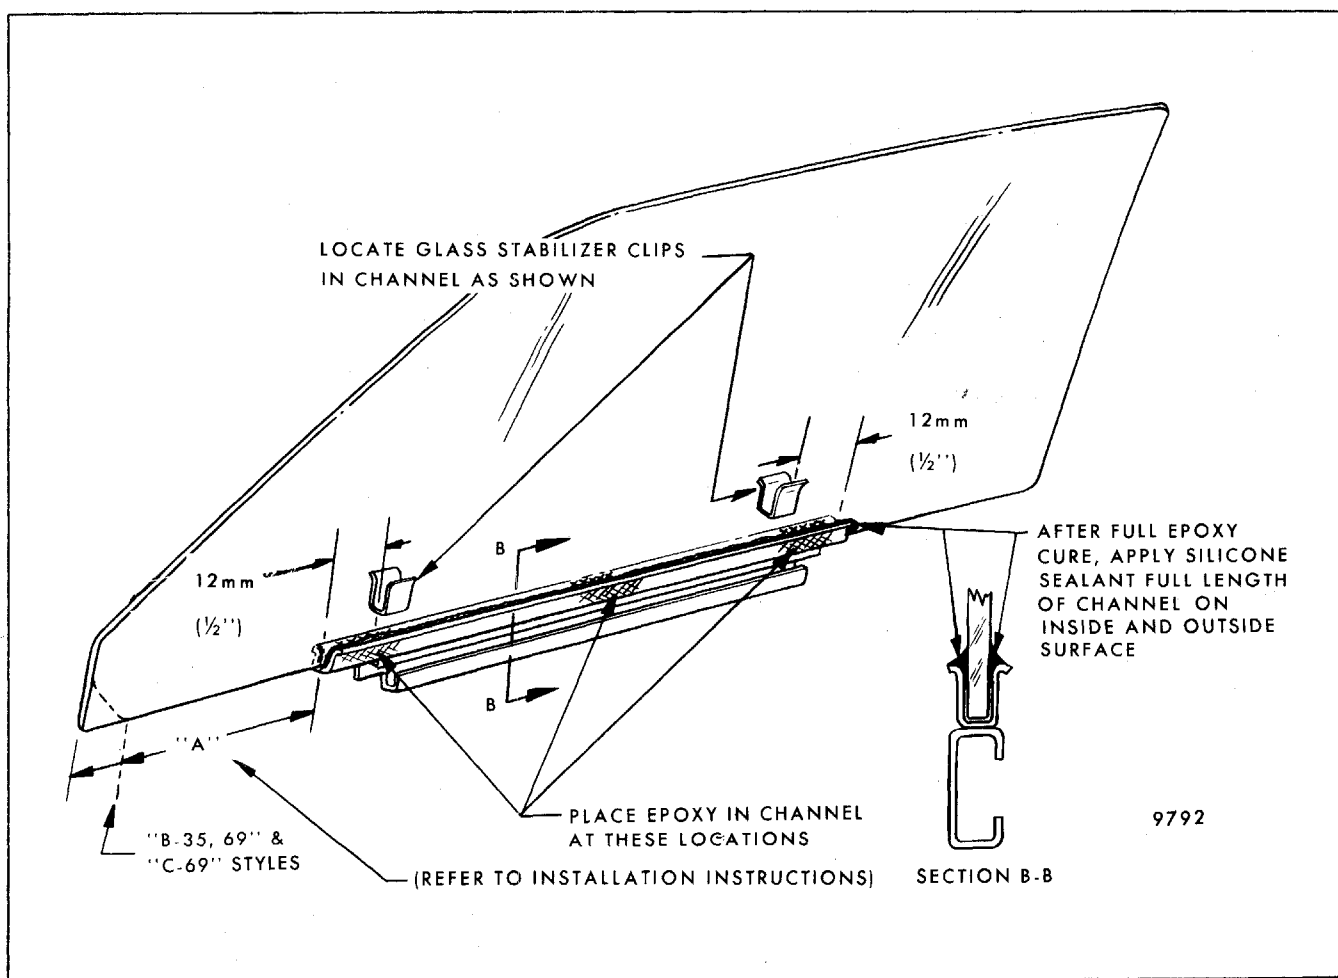

Fig. 5-60-Glass to Sash Channel Bonding
1. If replacement glass is being installed, locate the front of sash channel to lower front edge of glass (Dimension A in Figure 5-60) as follows:
2. To bond channel to glass, a two-part adhesive such as 3M Structural Adhesive No. 8101, Loctite Clear Epoxy, or equivalent is required. Thoroughly mix approximately one and one-half tablespoons (two Loctite mixer cups) of adhesive per package instructions. Place adhesive into channel at three locations indicated in Fig. 5-60.
5. After adhesive cure, flow a thin bead of silicone adhesive such as Dow Corning RTV 732 Silastic, 3M Super Silicone part no. 8661, General Electric RTV 108 Silicone Rubber or equivalent the full length of channel surface to prevent water entrapment in channel (Fig. 5-60).